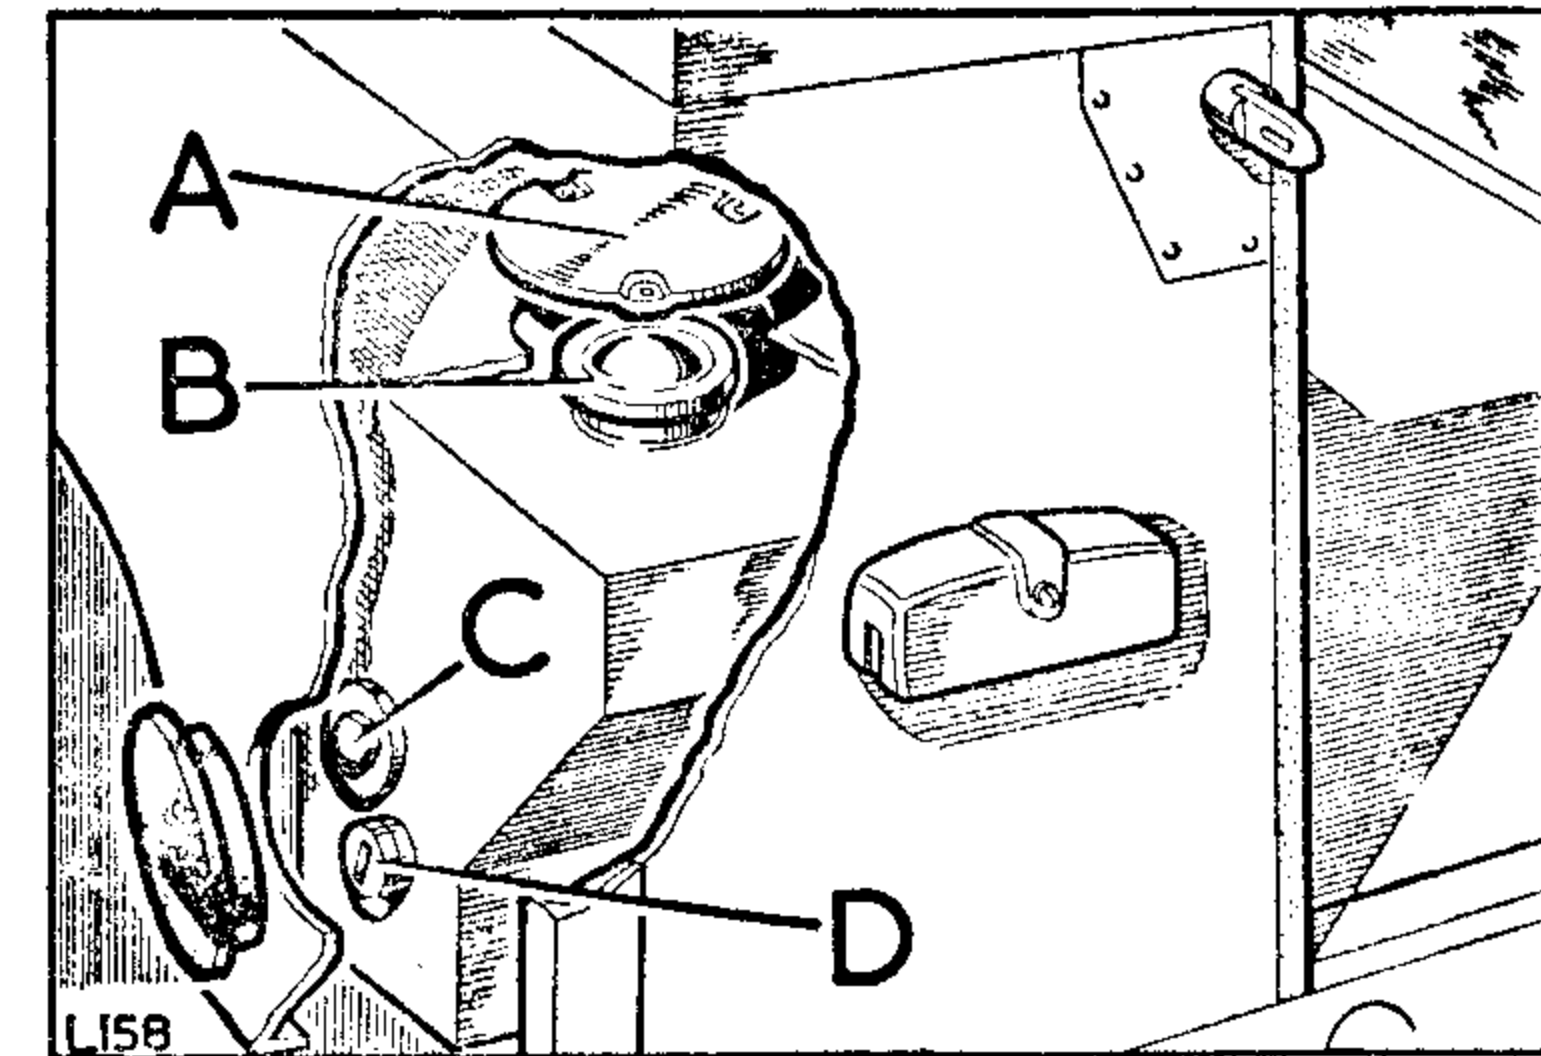

Fig. 78
1. Every 40 operation hours check the oil level in the hydraulic oil supply tanks by removing cover plate (A) Fig. 78 and filler cap (B) Fig. 78. Oil should be just visible in the bottom of the oil filter.
3. Oil changes. Every six months, drain off the oil from the supply tank by removing the slotted head drain plug (D) Fig. 78. At the same time remove and clean the tank oil filter (C) Fig. 78.